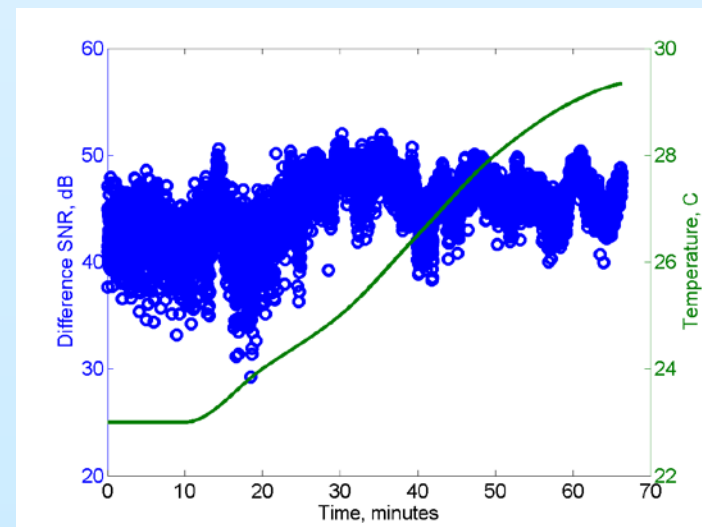

Figure 4. Effect of temperature on difference signal
- The difference signal changed with temperature ($r^2=0.18$), although the change was small (Figure 4)